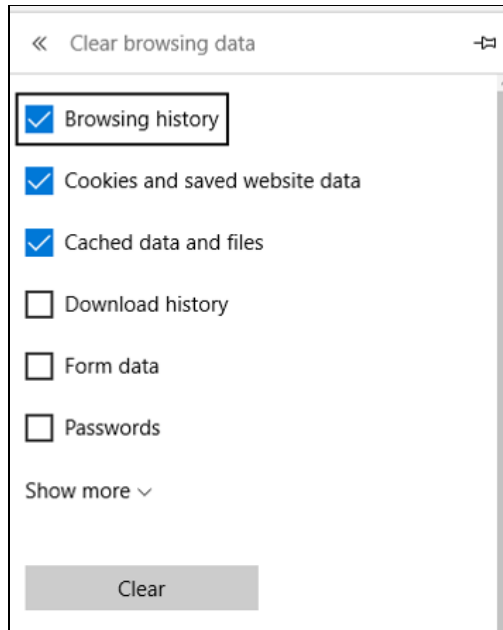

Figure 8: Internet Explorer Delete Browsing History screen
2. Select the options as shown in Figure 8.